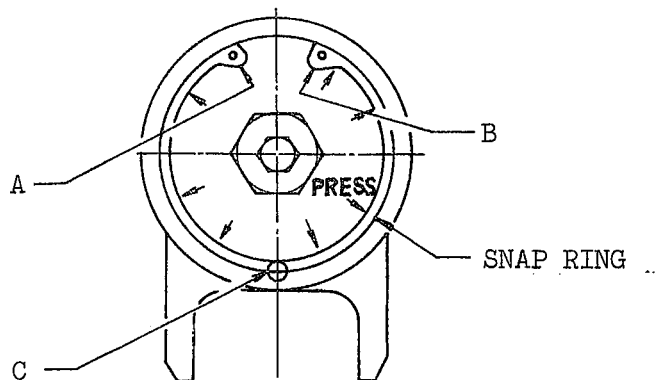

FIGURE 2. TOP END OF LANDING GEAR STRUT
- (1) Snap ring groove should be free from dirt or other foreign particles.
- (2) Snap ring seating portion in cylinder is designed to minimize clearance between plug and snap ring for increasing airtightness of oleo. (On some airplanes, shims are placed on plane "A" for this adjustment.) Due to the above design characteristic, such difficulty may be encountered as plug top surface interferes with snap ring when trying to seat in groove.
- (3) After installation, make sure the snap ring is seated snugly in groove as follows:
- (a) Check for complete engagement in groove at the three points A, B, and C as shown in figure 2.